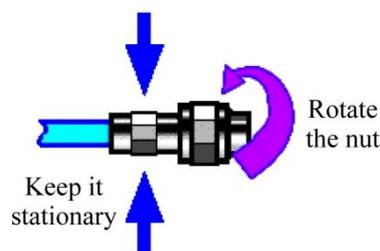

Figure 3-5 Connection method
Step 2: as shown in Figure 3-5, move the two connectors leveled together so that they can be smoothly engaged. Rotate the screw sleeve of the connector (note, not the rotating connector itself) until it is tightened, and there can be no relative rotational movement between the connectors during the connection.